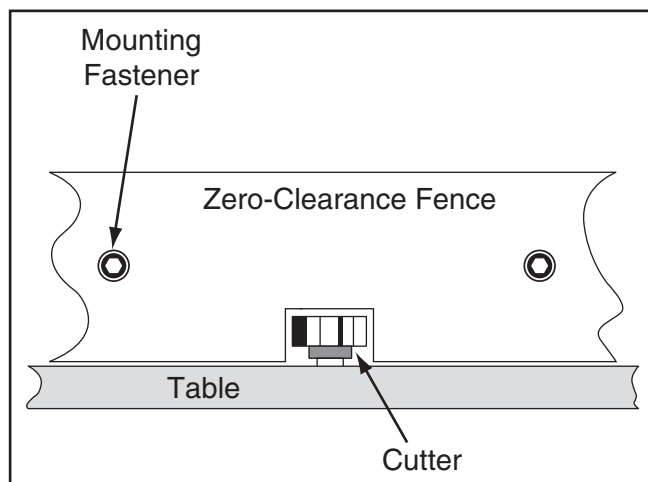

Figure 25. Example of a zero-clearance fence.
4. Cut an outline of the spindle and cutter from the center of the stock selected in **Step 3**, as illustrated in **Figure 25**.